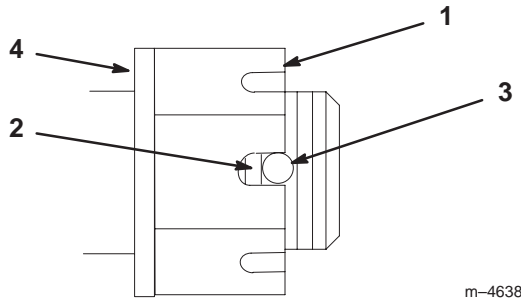

Figure 43
3. Torque slotted nut to 125 ft-lb (170 N•m) (Fig. 43).
4. Check the distance from bottom of slot in nut to inside edge of hole. Two threads or less should be showing (Fig. 43).
5. If more than two threads are showing remove nut and install washer between hub and nut (Fig. 43).
6. Torque the slotted nut to 125 ft-lb (170 N•m) (Fig. 43).
7. Tighten nut until the next set of slots line up with the hole in the shaft (Fig. 43).